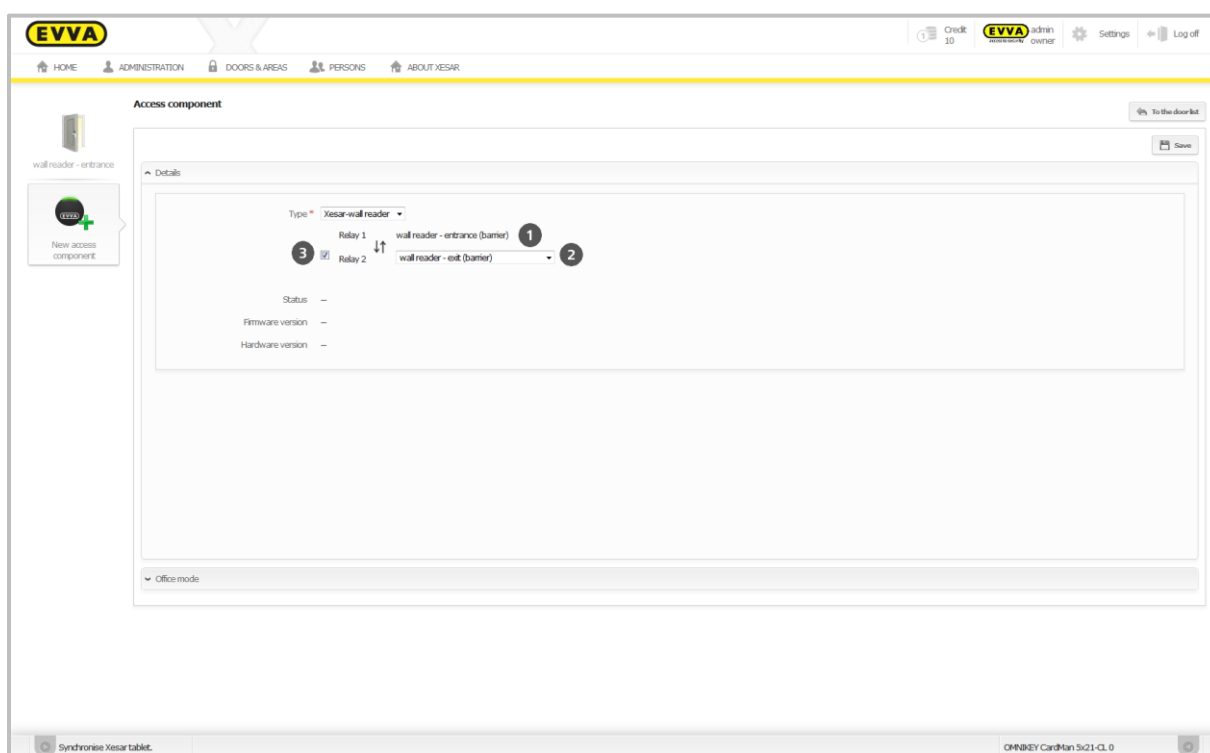

Figure 79: Connecting Xesar wall readers
- **Relay 1 1** (Figure 79: Connecting Xesar wall readers) is automatically assigned to the wall reader.
- Click **New access component ③** and select the Xesar wall reader from the drop-down list after having created the second door.
- **Relay 1 ①** (Figure 79: Connecting Xesar wall readers) is automatically assigned to the wall reader.
- Tick the check box as shown in ③ (Figure 79: Connecting Xesar wall readers).
- Select a different, newly created door from the drop-down list in the ② section. This automatically assigns a second wall reader to the selected door and the wall reader icon changes from  (icon-> one wall reader) to  (icon -> two Xesar wall readers).